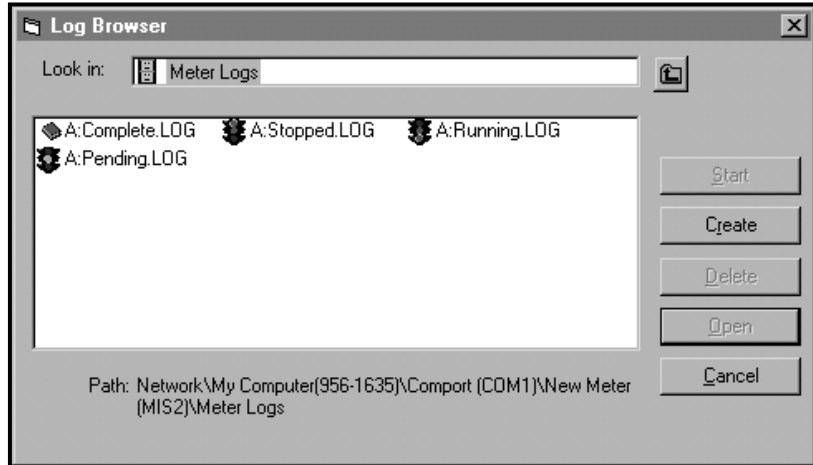

Figure 25: Log Browser Window
3. Double-click on *PC Logs* to access the stored PC logs, or on the *communication port name* and the *meter name* to access the stored meter logs. In either case, the *Log Browser* appears similar to Figure 25 below.